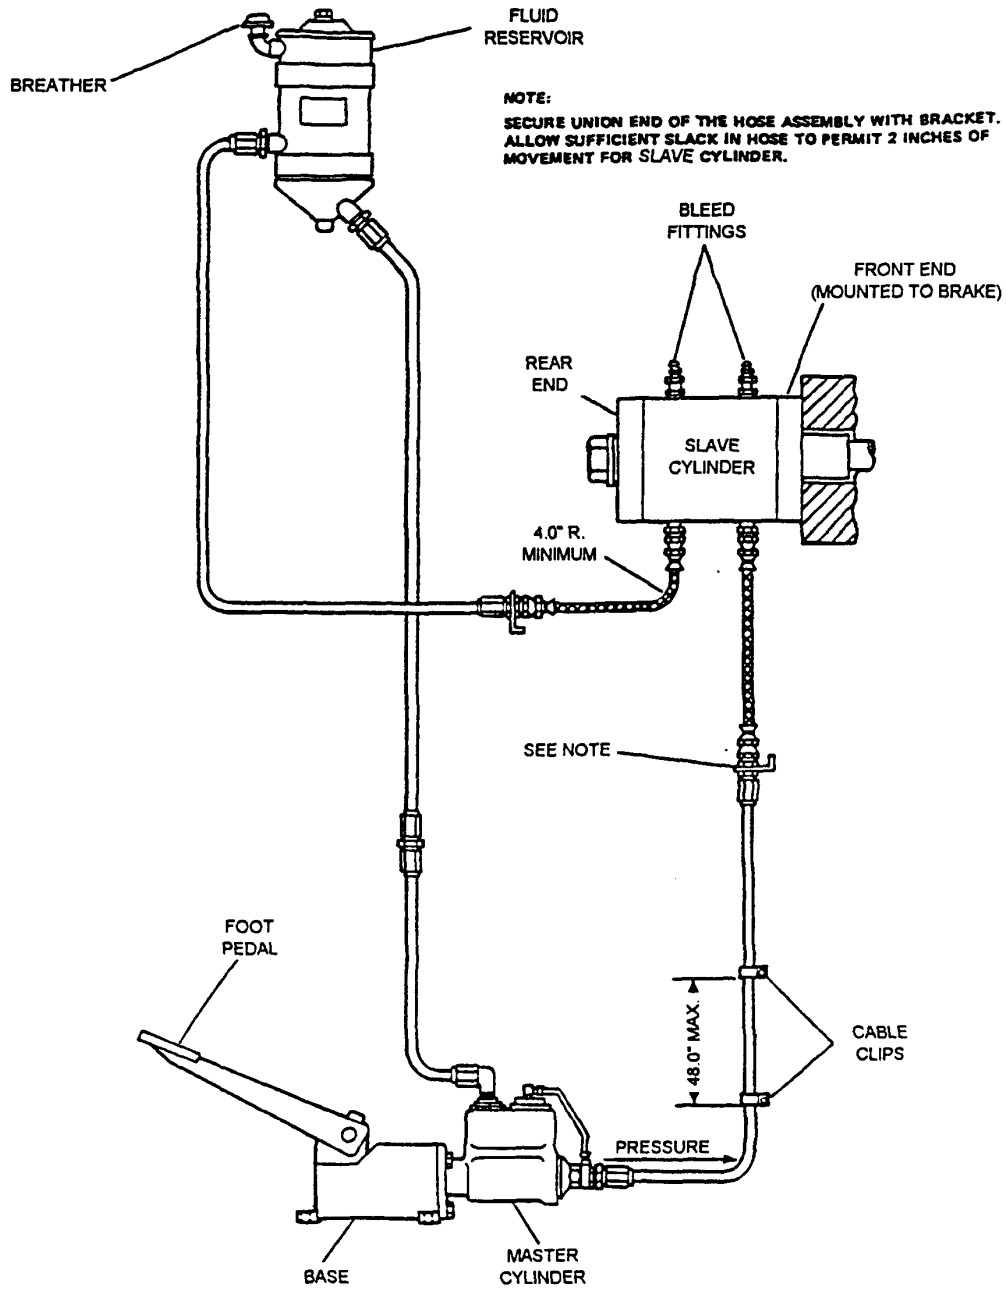

Figure 4
- 2.3.(b):** Single brake, single station, with remote electric bleed. See Fig. 4.
- 2.9: The remote electric bleed option permits quick, easy bleeding of each branch of the system by one person, usually the operator. Typical brake control systems with remote electric bleed are shown in Fig. 4, 6, 7 and 8.